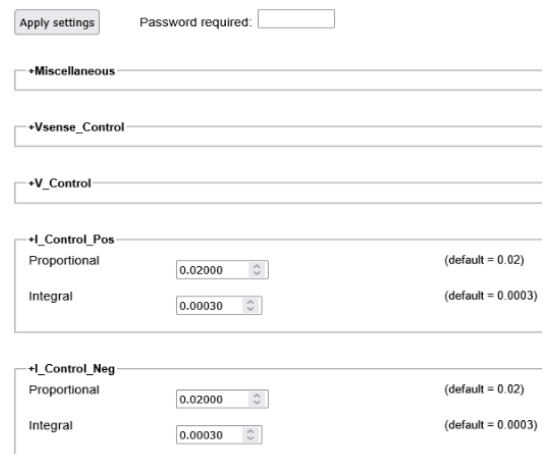

Figure 7.15: CC-control adjusting
- See Figure 7.15 for an illustration of the available settings.